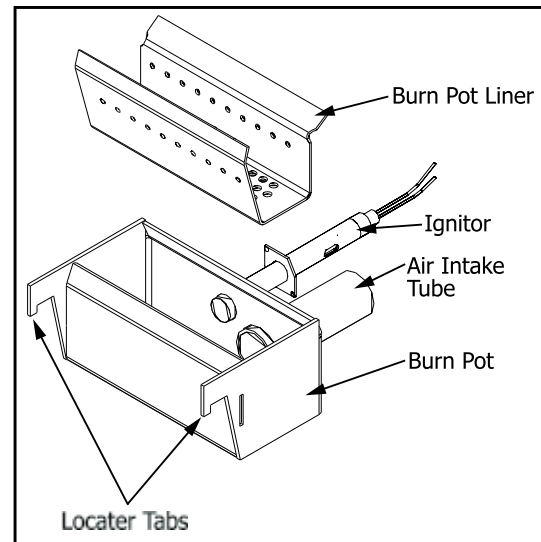

Figure 9: Burn Pot Assembly
Cleaning of the burn pot and liner must only be done when stove is cold. To remove the burn pot and burn pot liner, open the door using the door handle provided (located on the right-hand side of the stove). Swing the door open. Lift the liner from the burn pot. Lift the burn pot from the firebox by gently lifting up the front of the burn pot, then sliding the assembly from the air intake tube and the ignitor cartridge. See figure 9.
This is the 'pot' where the pellets are burned. Every two (2) to three (3) days (when the unit is cold), remove the burn-pot liner from the stove and inspect it to ensure proper air flow through the liner. **Failure to keep the liner clean may cause a build up of fuel past the burn pot liner and up the drop tube. This will cause the auger to jam and may result in pellets burning in the drop tube and hopper.** Using a metal scraper, remove material that has accumulated or is clogging the liner's holes. Then dispose of ashes from the liner and from inside the burn-pot. Place the burn-pot back into the stove, making sure that the pipes are properly inserted into the burn pot and locator tabs (see figure 9) are properly seated in the locator holes. Place the liner back into the burn-pot, making sure that the ignitor hole in the liner is aligned with the ignitor tube. Push the liner up against the ignitor tube.